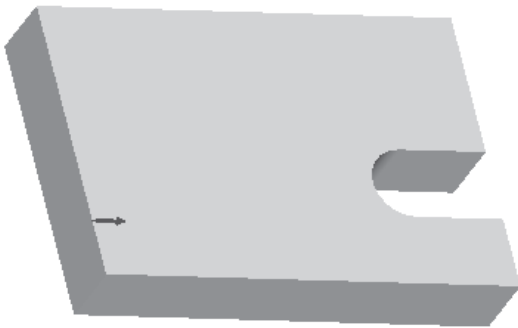

Figure 4-65 Arrow showing the direction of feature creation from the sketching plane
3. Using the CTRL+middle mouse button, spin the model as shown in Figure 4-65.
5. Use the **Flip** option to flip the red arrow to point in the direction of extrusion as shown in Figure 4-65.